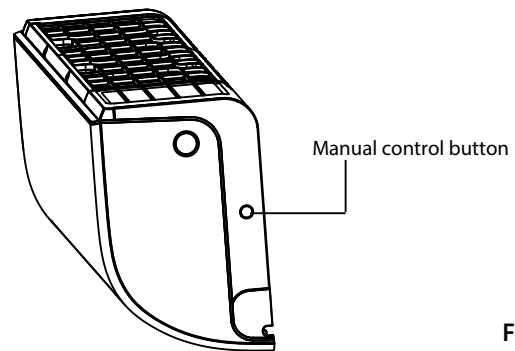

Fig. 10.1
1. Locate the MANUAL CONTROL button on the right-hand side panel of the unit. See Fig.10.1.